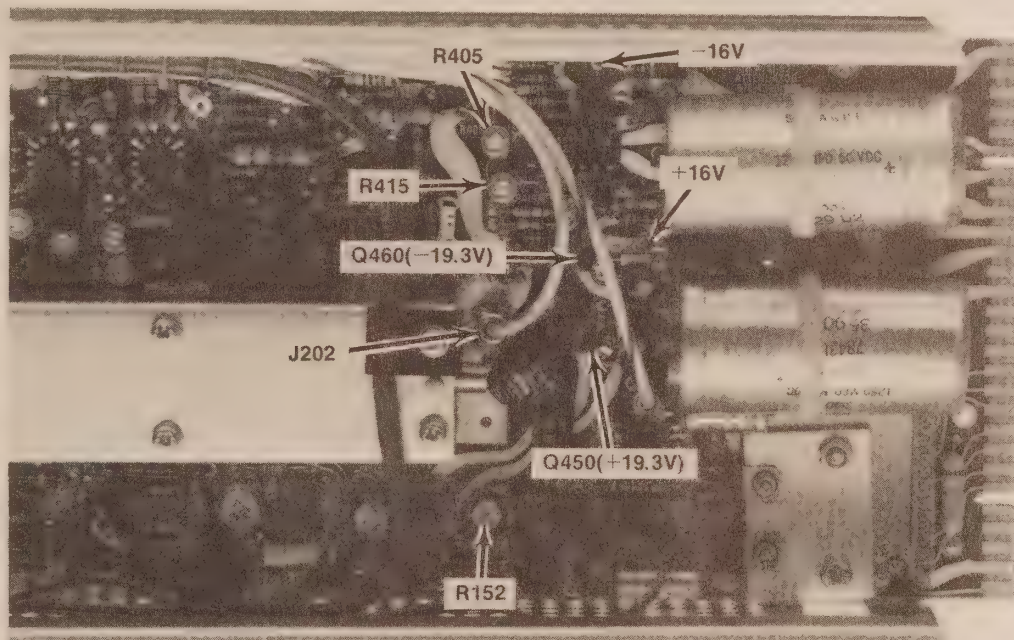

Fig. 3-2. Power supply test point and adjustment locations.
- a. Connect the DVM between each voltage test point and ground for the supplies listed in Table 3-2. See Fig. 3-2 for test point and adjustment locations.
- h. Adjust—R152, Degauss Offset (see Fig. 3-2), for zero volts dc (trace positioned on center graticule line).